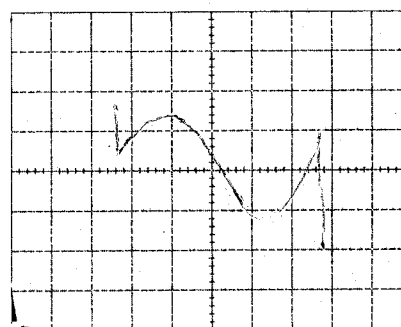

Figure 5-2. Gain curve with a 2-K Ω load, 50 μ V/div vertical sensitivity.
- 6) Display actual gain — Switch VERT UNITS/DIV to smaller values until display almost fills screen vertically in region between horizontal points corresponding to specified domain. As necessary, press DISPLAY ZERO to center trace on screen. Press UPPER and LOWER ERASE to clear screen, UPPER and LOWER STORE to save display. Refer to Figure 5-2. **50 48 3 2**